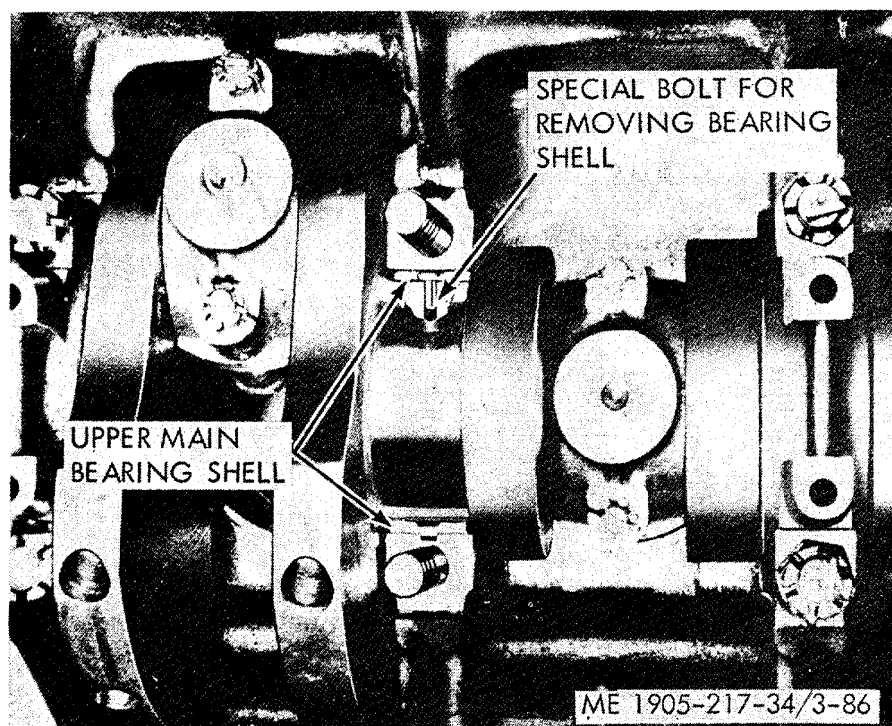

Figure 3-86. Main bearing upper shell, removal (except rear main) crankshaft in place.
(5) To remove all except rear main bearing shell, insert a 1/4 inch x 1 inch bolt with a 1/2 inch diameter by 1/16 inch thick head (made from a standard bolt) into the crankshaft journal oil hole, then revolve the shaft to the right (clockwise) and roll the bearing shell out of position, as shown in figure 3-86. The head of the bolt should not extend beyond the outside diameter of the shell.